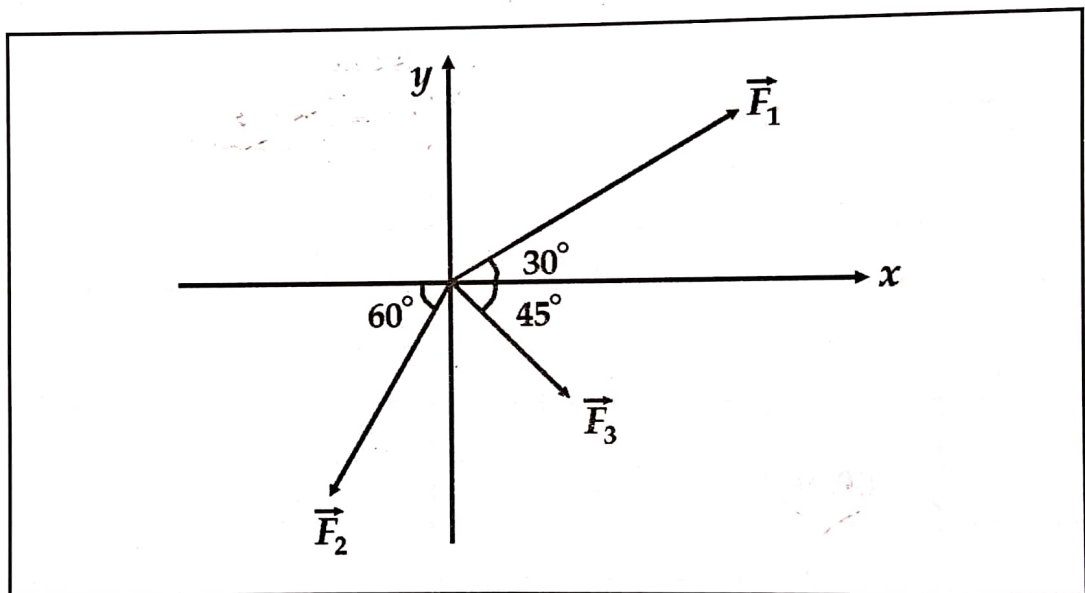

Figure 3.6: Setup of forces in part 2.
- Follow the procedure in part 1 above to find the resultant of the three forces with directions as shown in Figure 3.6.